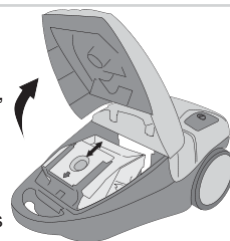

Figure 11 Changing the dust bag
Change the dust bag immediately once the 'dust bag full' indicator turns red, see Figure 11.
- Remove the dust bag, see Figure 11.